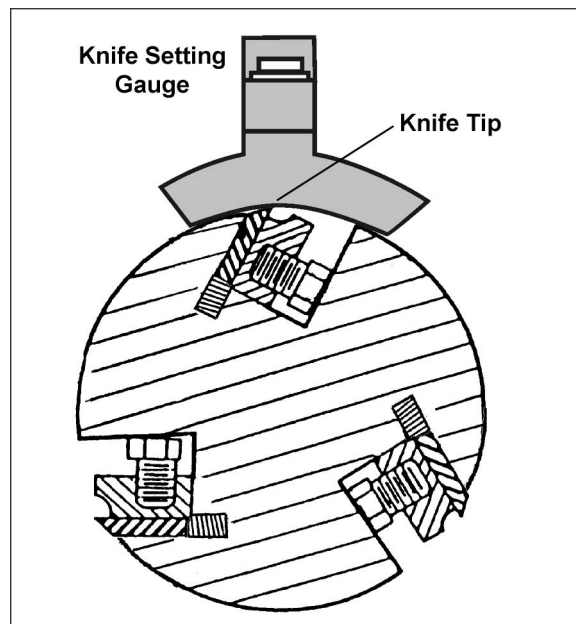

Figure 19
8. Place the knife setting gauge (provided) upon the cutterhead and centered over a knife, as shown in Figure 19. Make sure the feet of the knife setting gauge rest solidly upon the cutterhead and that its handle is parallel to the cutterhead. The gauge is now holding the knife at proper depth.